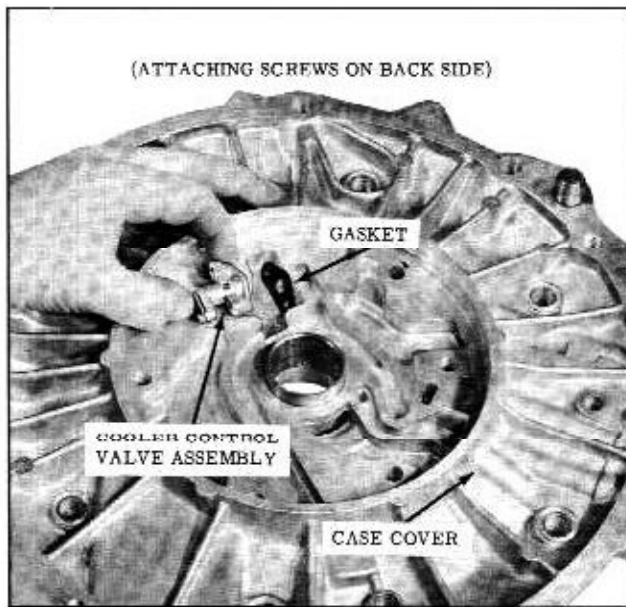

Fig. 3-60 Removing Cooler Control Valve
6. Remove cooler control valve assembly and gasket. (Fig. 3-60) **DO NOT DISASSEMBLE COOLER CONTROL VALVE ASSEMBLY.**